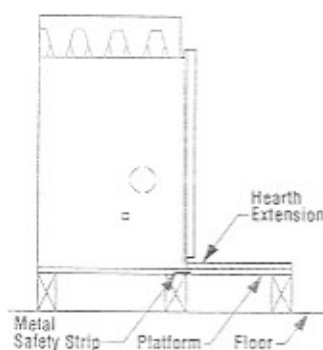

Figure 5
Step 2. Insert the metal safety strips, packaged with the fireplace, beneath the fireplace as illustrated (Figures 5 and 6). The safety strips should overlap for continual coverage of the floor.